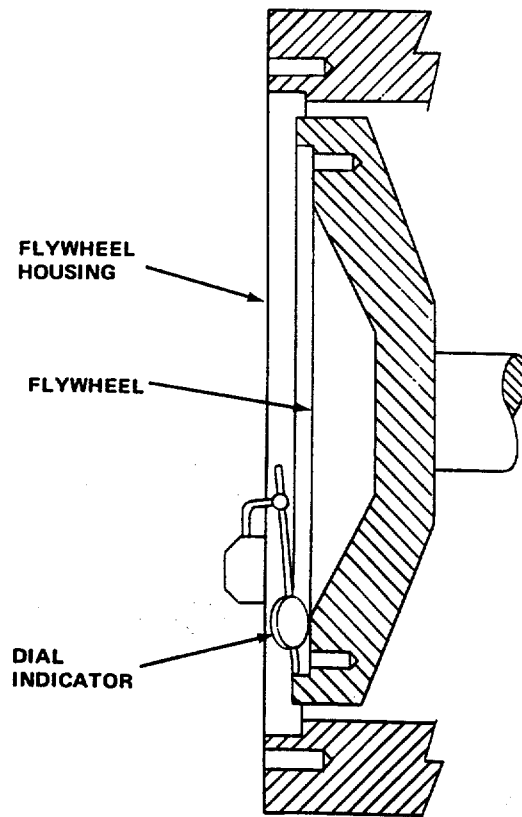

Figure 11-7. Checking Flywheel Pilot Bore Eccentricity
- (c) Check pilot bore eccentricity. Position the indicator finger on the bore of the drive disc pilot recess as shown in figure 11-7. Rotate the engine through one revolution. Total indicator reading should not exceed 0.005 inch (0.13 mm).